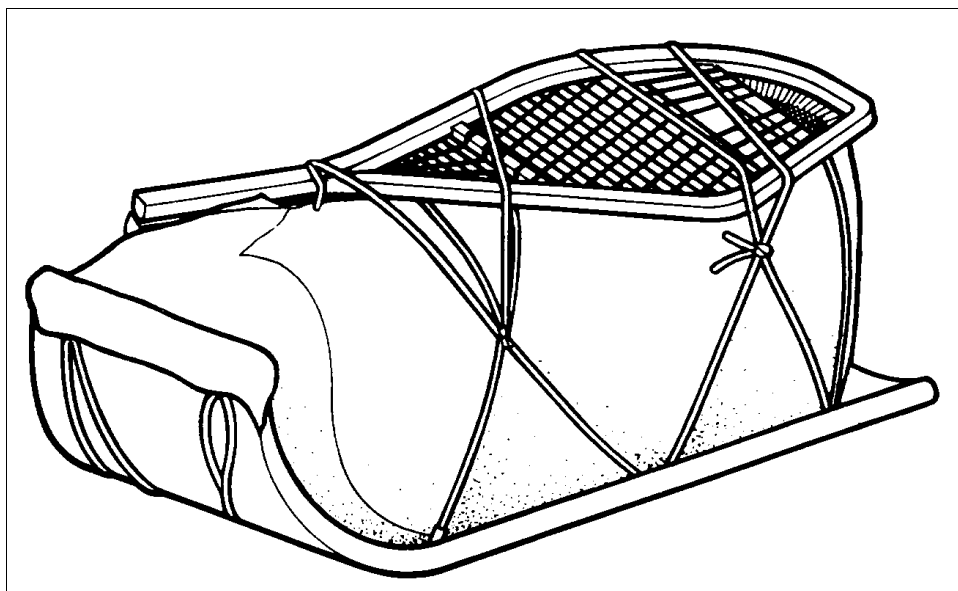

Figure 2-9A One-Man Toboggan Secured
4. Lashing. Before a move, the toboggan must be properly and securely lashed. Careless lashing may result in the loss of valuable equipment and loose lashing will cause unnecessary hardship for men who have to stop and relash on a cold day. Follow the drill given here to do, a good job (see Figure 2-9A).
- d. The brass hooks on the cargo pack become very brittle in very cold weather and will snap easily if pried or forced. Once they have been adjusted, they should be treated with care when the toboggan is unloaded. Emergency replacements can be made from nails or wire (see Figure 2-9A).